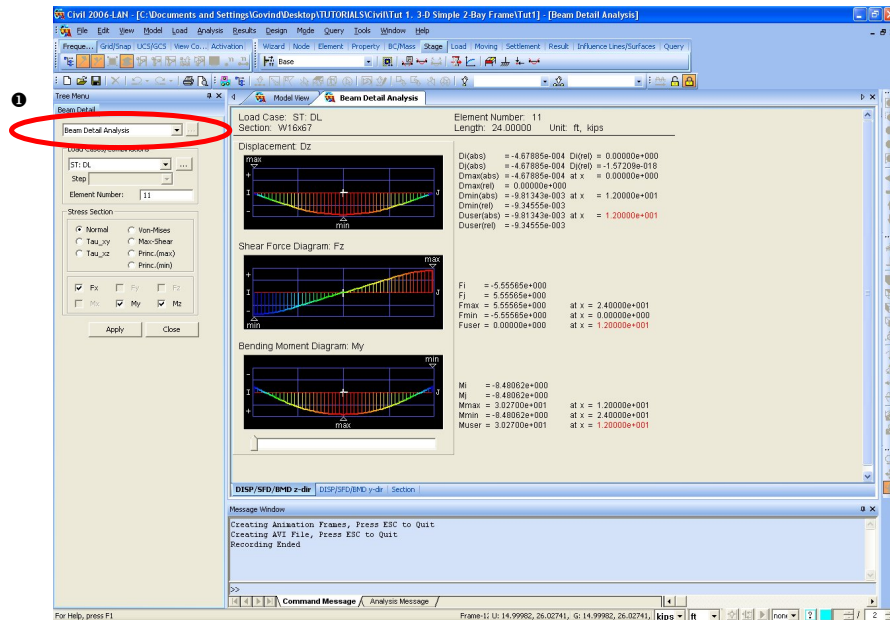

Figure 1.38 Beam Detail Analysis (DISP/SFD/BMD z-dir)
1. Click  **Close** shown in Fig.1.38–①.
6. Verify the analysis results by selecting consecutively the **DISP/SFD/BMD z-dir**, **DISP/SFD/BMD y-dir** and **Section** tabs shown in Fig.1.38–①.
① The windows currently opened in the Window of the Main Menu can be automatically assigned in diverse formats.
① The z-dir tab displays Dz, Fz and My.